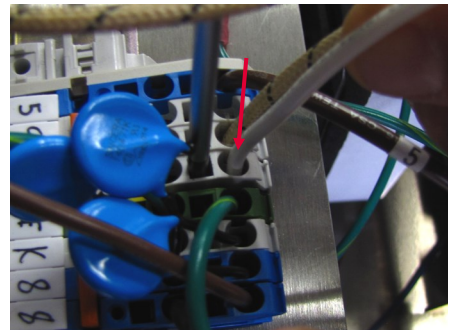

Figure 23
23. Reconnect the #9 white wire into the DIN rail as depicted in Figure 23. Insert a small flat head screwdriver into the square hole immediately adjacent to the wire hole. Press straight down with the screwdriver and the wire pinch will be opened to receive the wire. Insert the wire and remove the screwdriver. Give the wire a slight tug to make sure it is secure.